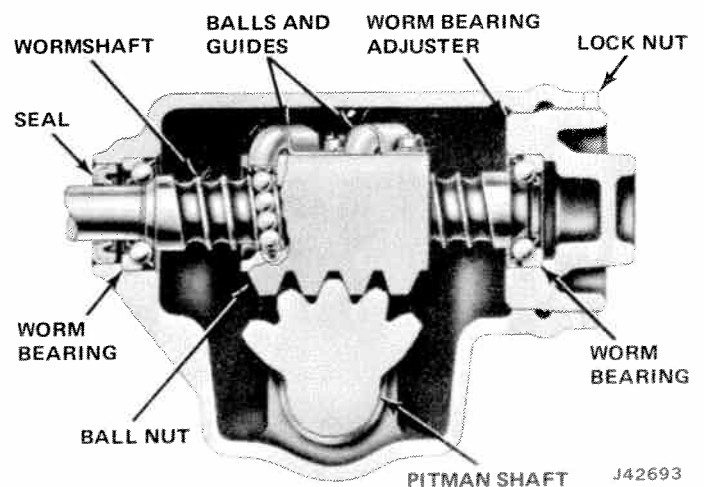
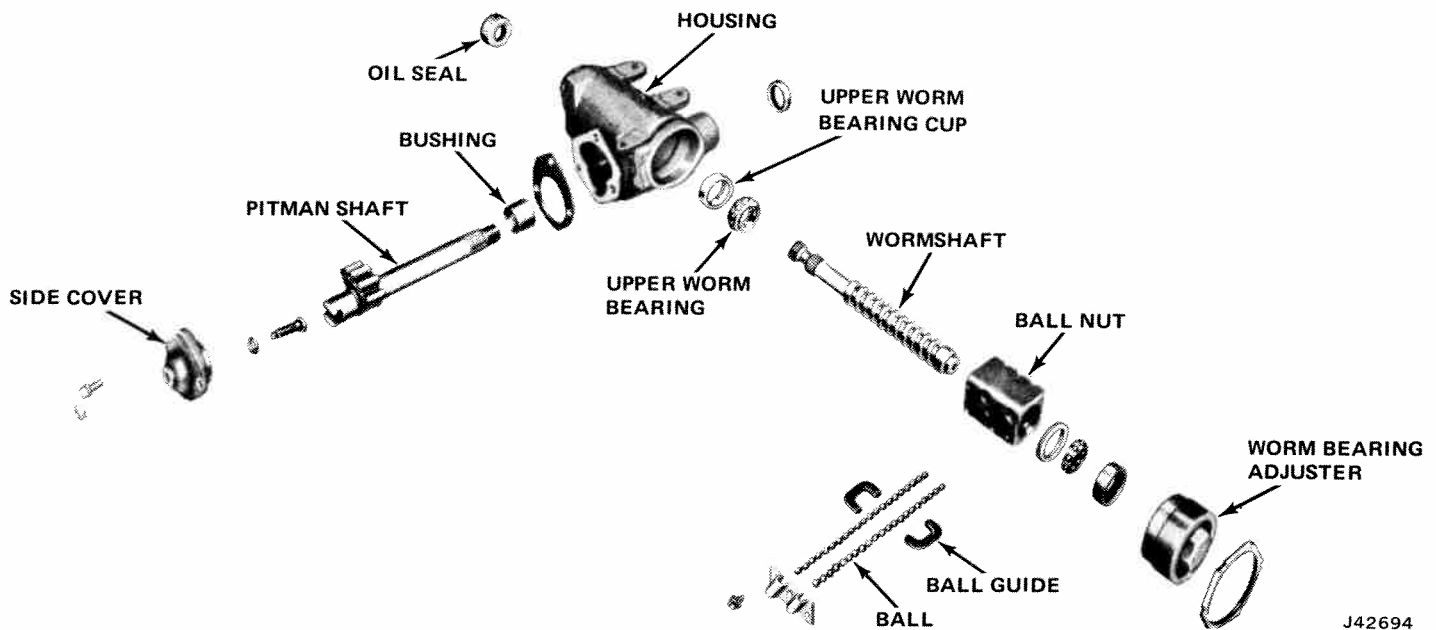

Fig. 11-33 Cross-Section of Steering Gear
Fig. 11-34 Left-Hand Drive Manual Steering Gear
- (1) Rotate wormshaft until it is in center of travel. Mark along shaft, just beneath double spline, shall be centered between top and bottom of shaft when looking at shaft from side cover side (fig. 11-33).
- (2) Remove adjuster locknut.
- (3) Remove side cover bolts and lockwashers and turn lash adjuster screw clockwise to force side cover from housing. Remove side cover and gasket (fig. 11-34).
- (4) Remove adjuster screw and shim from T-slot in